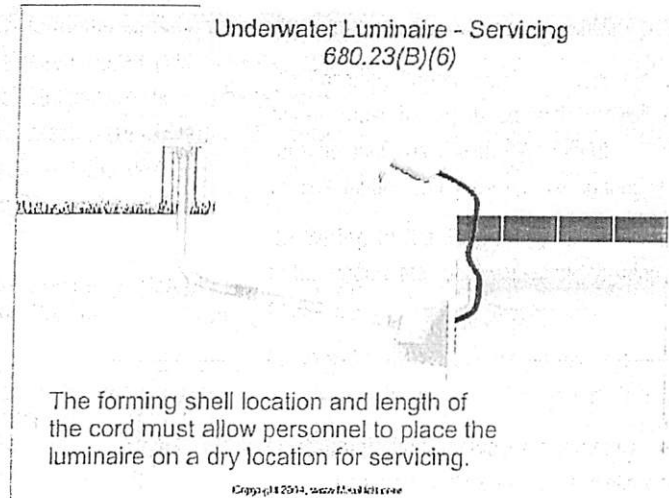

Figure 680-32
(6) Servicing. The forming shell location and length of cord in the forming shell must allow for personnel to place the removed luminaire on the deck or other dry location for maintenance. The luminaire maintenance location must be accessible without entering or going in the pool water. Figure 680-32